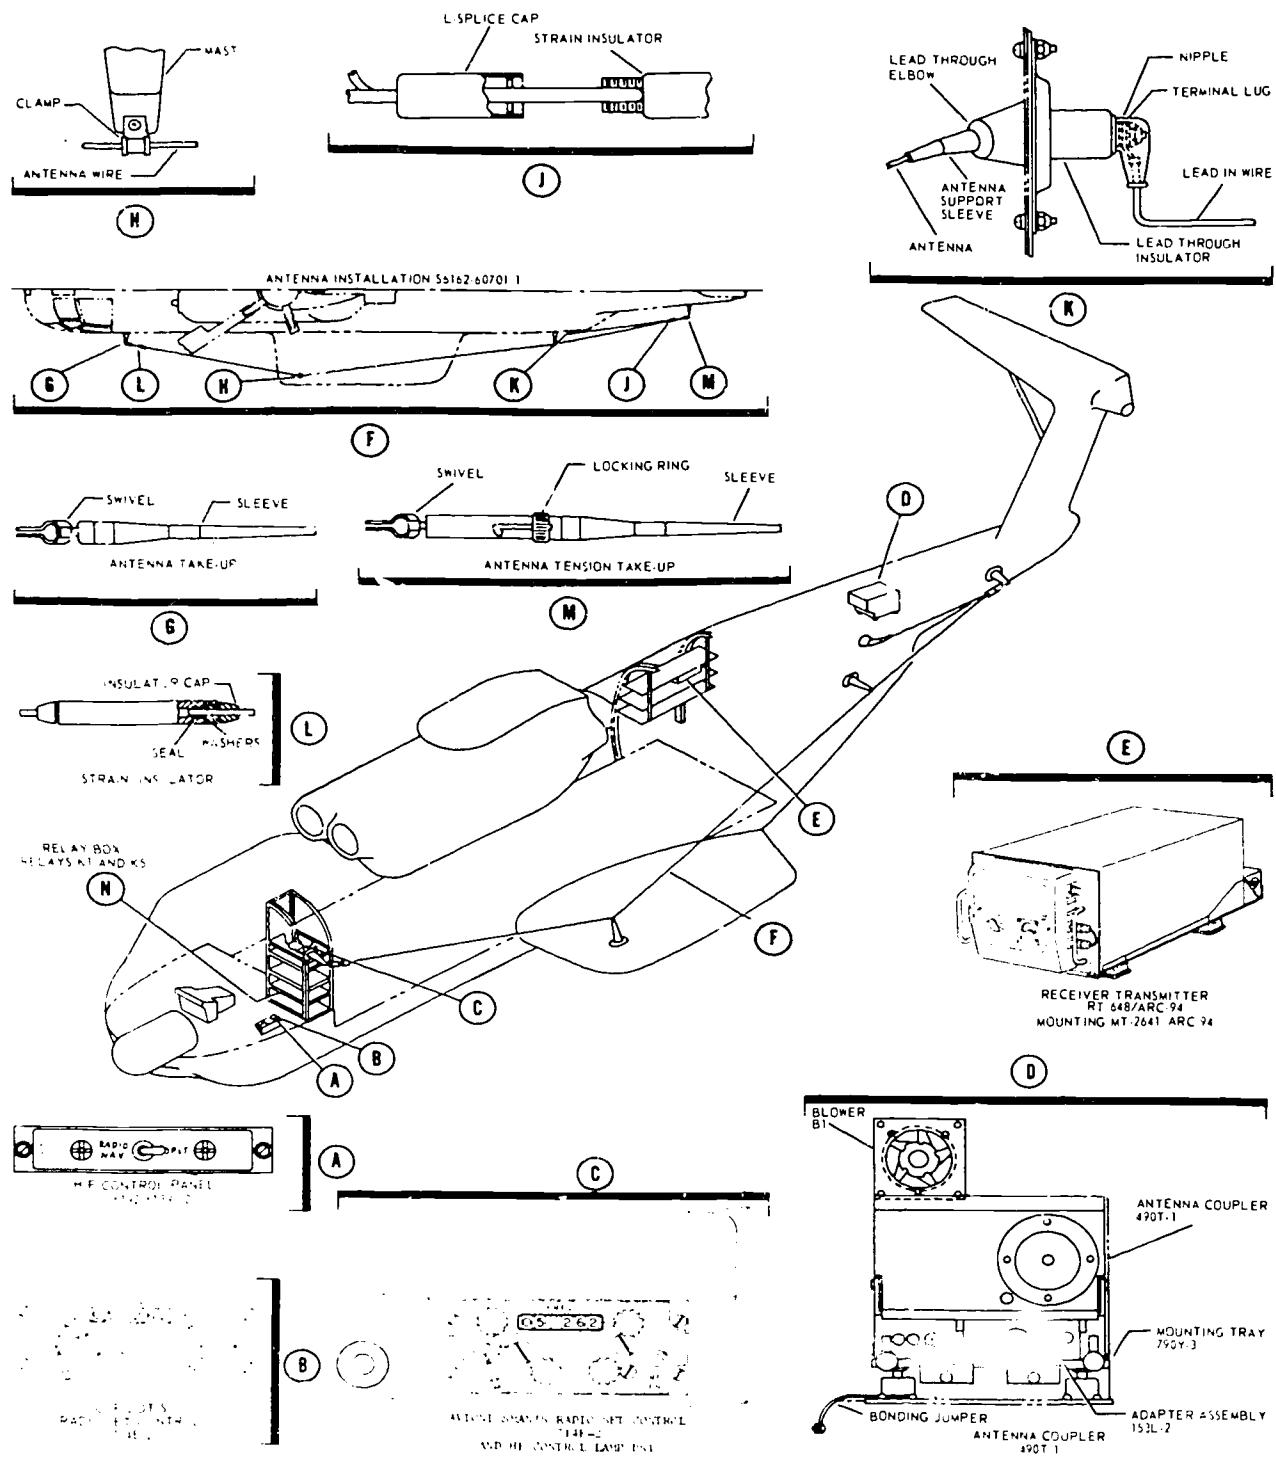
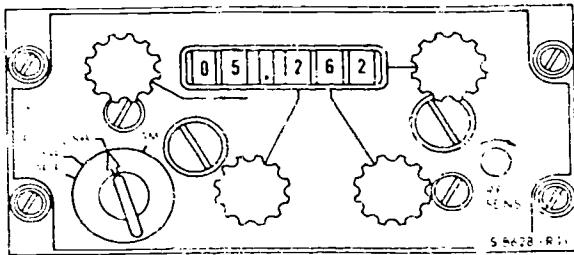
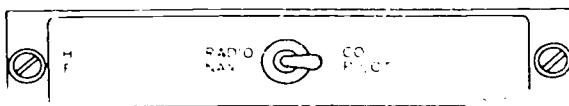
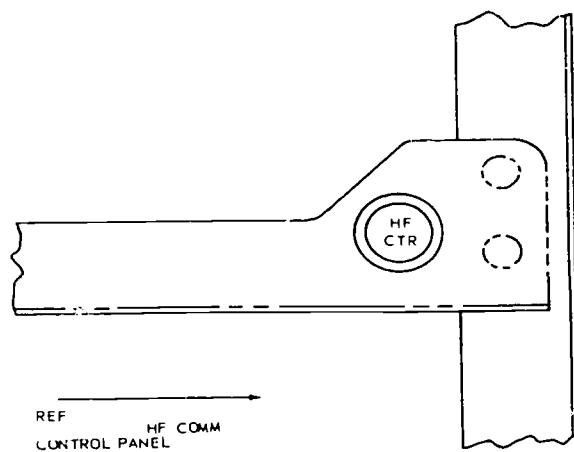

Figure 7-4. - HF/COMM system components - location diagram.
Figure 7-5. - HF/COMM radio AN/ARC-94.
Figure 7-6. - HF/COMM switch panel.
Figure 7-7. - HF/COMM control advisory light.
antenna, a coupler and a coupler blower. The system provides two-way voice communication between land-based, seaborne and airborne stations. The operating frequency range is from 2.0 to 29.999 MHz, divided into 28,000 discrete channels in one KHz increments. The HF/COMM system receives and transmits on either single sideband (USB or LSB) or amplitude modulated equivalent (AM). The receiver transmitter and the coupler blower are both powered by the No. 2 AC primary bus. The radio set uses 400-Hz three-phase 115-volt AC, and the coupler blower uses 400-Hz single-phase 115-volt AC power. Each unit is protected by a circuit breaker on the pilot's circuit breaker panel. The circuit breaker is under the general heading NO. 2 AC PRI. The receiver and transmitter circuit breaker is marked HF, and the coupler blower circuit breaker is marked HF COUPLER BLOW V3. The control circuit illuminates the avionicsman's HF (figure 7-7) control light and is powered by the DC primary bus. This circuit is protected by a circuit breaker on the pilot's circuit breaker panel. The circuit breaker is under the general headings DC PRI and is marked HF. (See figure 7-4.)
The system is remotely controlled by either one of two control panels (figure 7-5) marked HF. One control panel is located on the copilot's console and the other on the avionicsman's console. In addition, the copilot's console contains an HF/COMM switch panel (figure 7-6), with marked positions RADIO NAV and COPILOT. This switch permits the copilot to transfer control to or remove control from the avionicsman's control panel. The COPILOT position gives control of the set to the copilot, and the RADIO NAV position gives control of the set to the avionicsman. An advisory light (figure 7-7), marked HF CTR, is illuminated on the avionicsman's console above the HF/COMM control panel when the avionicsman has control. Both HF control panels contain a mode selector, four frequency selector knobs and associated display window, and an RF sensitivity control.
Frequency Control (See figure 7-5.)
1. HF/COMM Control Selector Switch (HF/COMM Switch Panel) - AS REQUIRED. (See figure 7-6.)